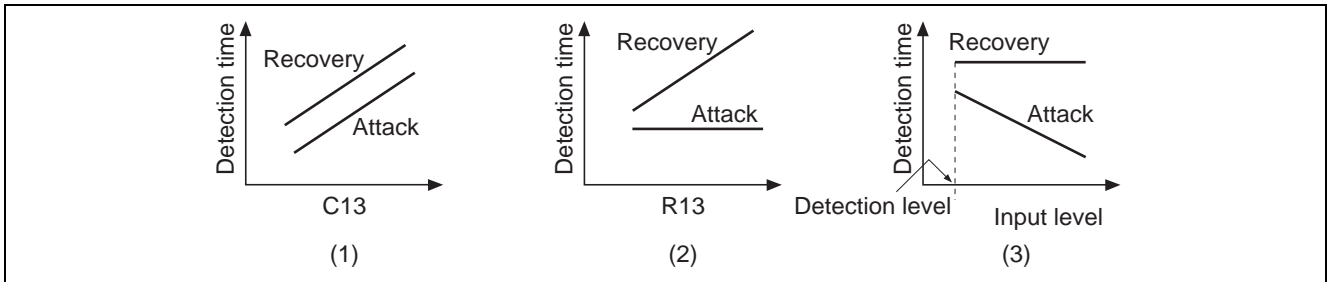

Figure 6 Function Characteristic of MS
Figure 6(1) generally shows that detection time is in proportion to value of capacitor C13. But, with Attack*¹ and Recovery*² the detection time differs exceptionally.
Like the figure 6(2), Recovery time is variably possible by value of resistor R13. But Attack time gets about fixed value. Attack time has dependence by input level. When a large signal is inputted, Attack time is short tendency.